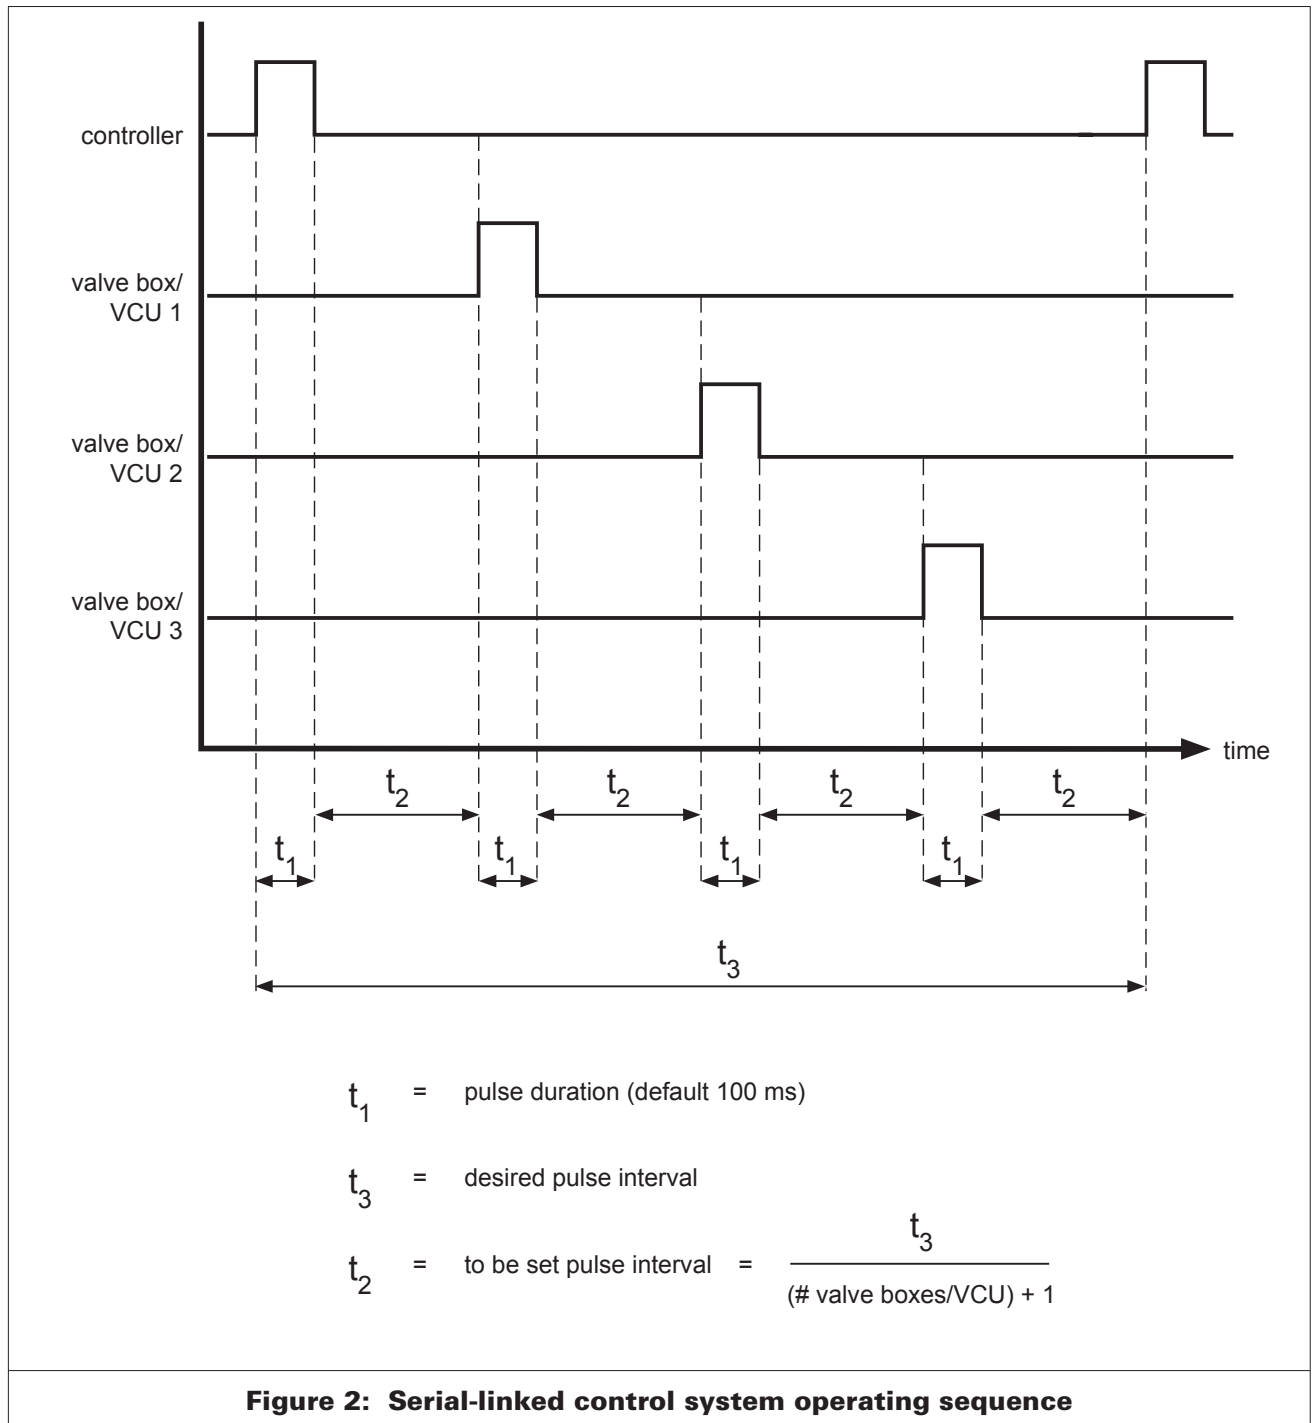

Figure 2: Serial-linked control system operating sequence
The solenoid valves in a serial-linked control system will fire sequentially as shown in figure 2.
- **desired pulse interval (for one unit)** = the time needed between the firing of valve 2/unit 1 and valve 1/unit 1. (= t_2 in figure 2+1)
- **to be set pulse interval** = the pulse interval that needs to be entered/set in the controller = pulse interval, controller setting. (= t_3 in figure 2+1)